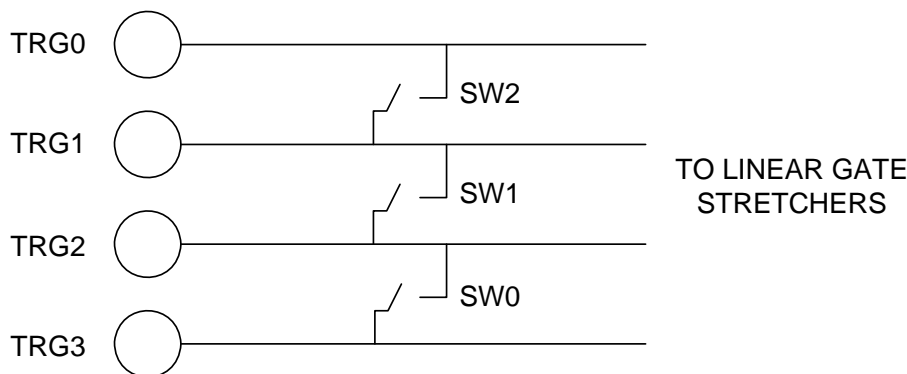

fig.2
When the sampling mode by external pulse is enabled, a front panel dip-switch selector allows the triggering of several channels by the same pulse (see fig 2).
-No 1 " TRG SEL ". If the sampling mode by external trigger is selected, it is possible to send the same trigger pulse to each channel that has been enabled by the relevant switch (only 3 switches are used, refer to fig. 2).